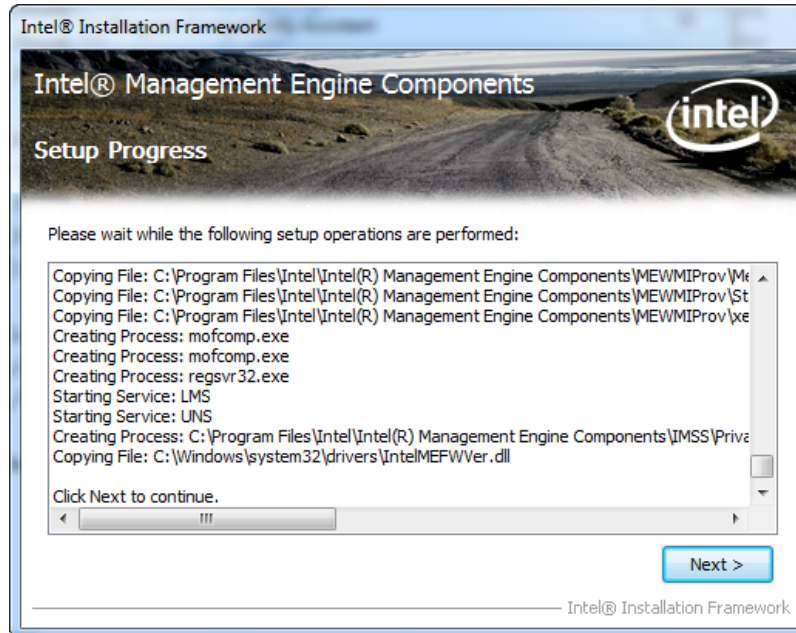

Figure 6-31: Intel® ME Driver Setup Operations
Step 11: **Setup Operations** are performed as shown in **Figure 6-31**.